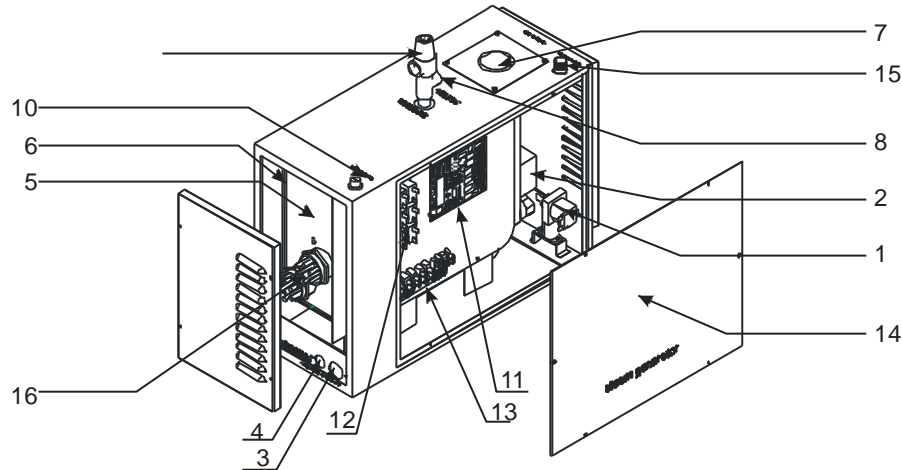

Figure 4
1. The frame of steam generator (Figure 4)